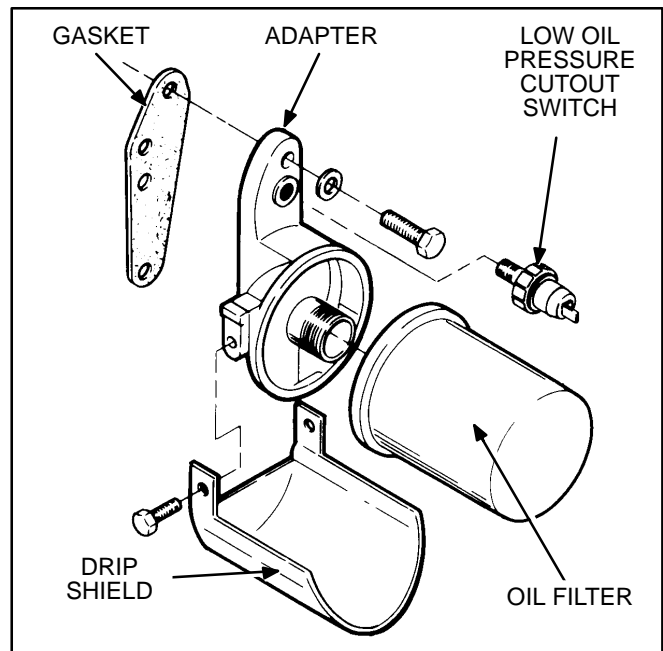

FIGURE 14. OIL FILTER AND ADAPTER
3. Loosen the two capscrews that secure the adapter to the engine block and remove the adapter and gasket. The low oil pressure cutoff switch is installed in a threaded hole in the filter adapter. See Figure 14.